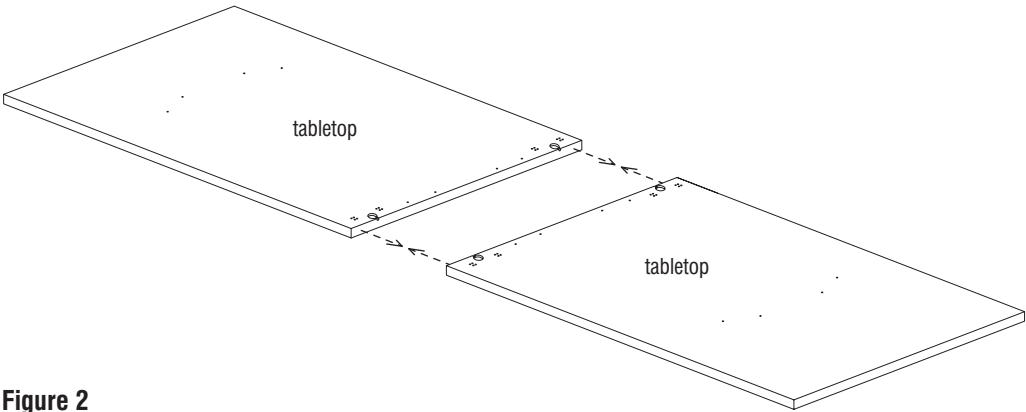

Figure 2
2. To join two-piece table halves together, first align the surfaces to be joined so the holes for the joint fasteners face each other. Then slide both worksurface halves together and align edges perfectly to each other (Figure 2).